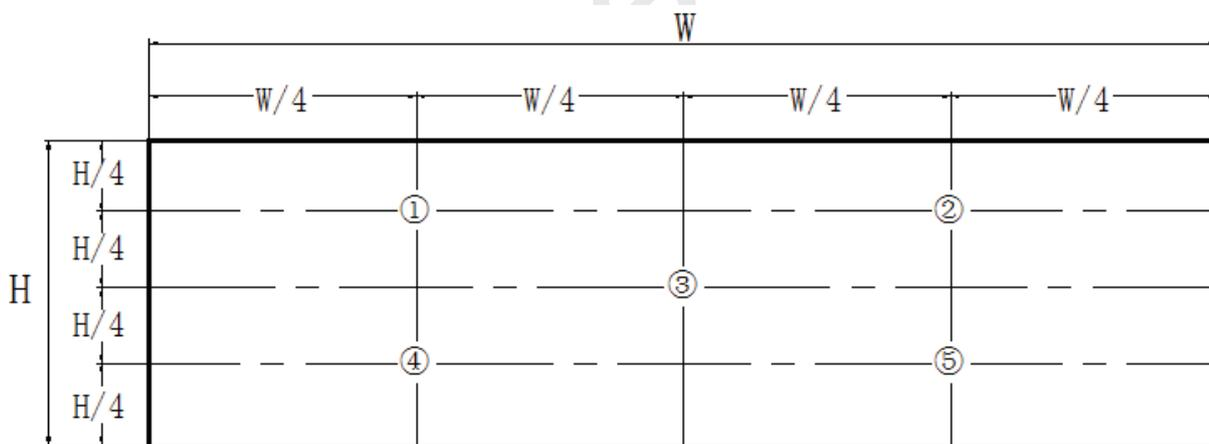
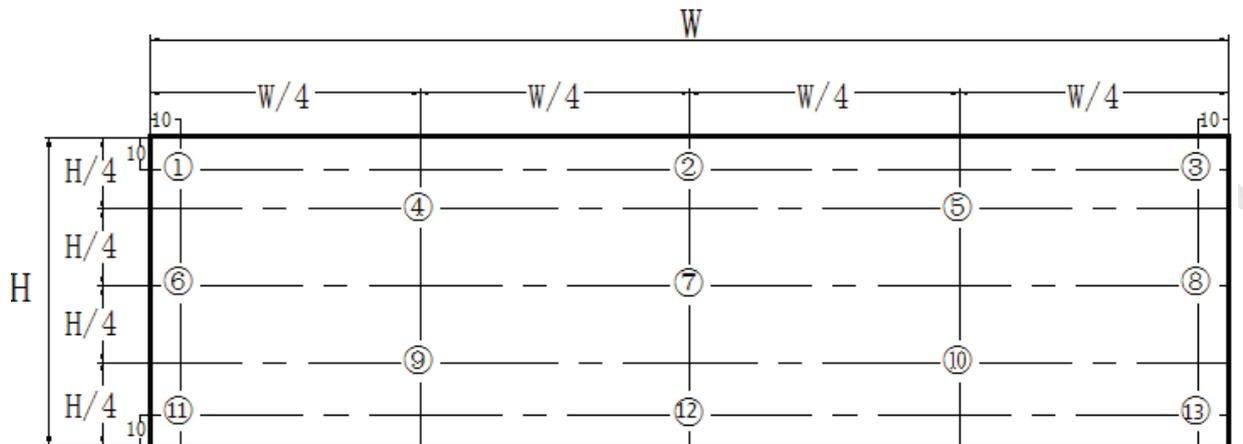

Figure 8. White Luminance and Uniformity Measurement Locations (5 points)
Figure 9. Uniformity Measurement Locations (13 points)
- Center Luminance of white is defined as luminance values of 5 point average across the LCD surface. Luminance shall be measured with all pixels in the view field set first to white. This measurement shall be taken at the locations shown in Figure 8 for a total of the measurements per display.
- The White luminance uniformity on LCD surface is then expressed as : $\Delta Y = \text{Minimum Luminance of 5(or 13) points} / \text{Maximum Luminance of 5(or 13) points.}$ (see Figure 8 and Figure 9).
The White luminance uniformity on LCD surface is then expressed as : $\Delta Y5$ = Minimum Luminance of five points / Maximum Luminance of five points (see Figure 8) , $\Delta Y13$ = Minimum Luminance of 13 points /Maximum Luminance of 13 points (see Figure 9).